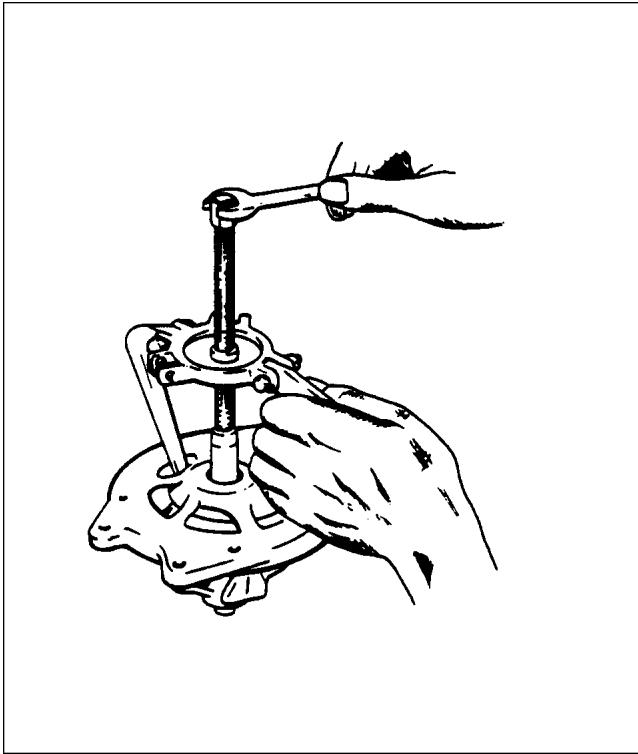
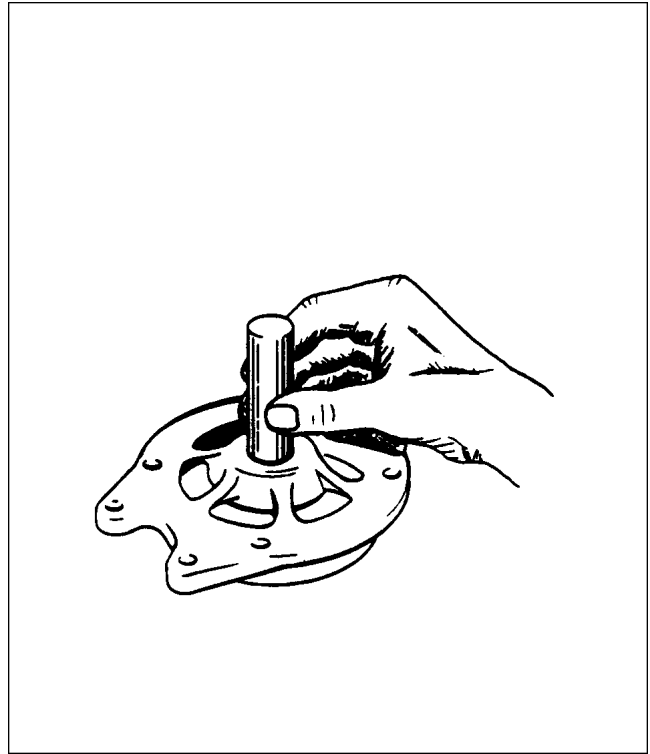

Figure 11-5. Removal of Drive End Head
Figure 11-6. Removal of End Head Bearing
f. To remove drive end head from rotor shaft, use a puller that grips on bearing retainer plate as in Figure 11-5. Do not attempt to remove by supporting end head and pressing on shaft, as this may result in distortion of end head or stripping of retainer plate screws. Remove the three retainer plate screws and press bearing out of end head. (Refer to Figure 11-6.)